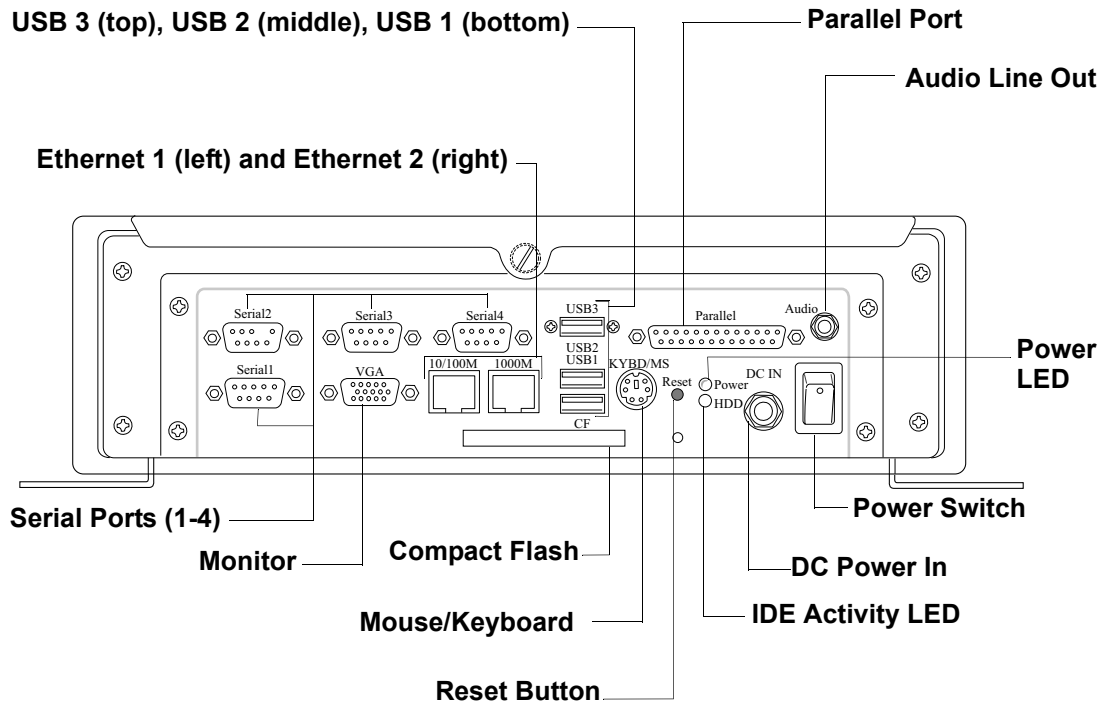

Figure 1-3. Flat View of ReadySystem Fanless I/O Panel
7) Connect the Y-cable and the respective peripheral cables/devices.	This includes the Y-cable for the PS/2 keyboard and mouse. Refer to Figure 1-3 on page 6 for locations and descriptions of the connectors and controls before making connections or powering on the ReadySystem Fanless.
Power Switch	This power switch controls DC power and connects to the ReadyBoard from the I/O panel shown in Figure 1-3 .
IDE Activity LED	This yellow activity indicator, shown in Figure 1-3 , resides on the ReadyBoard and flickers when IDE or compact flash card activity occurs in the ReadySystem Fanless.
8) Follow these steps to apply power to the ReadySystem Fanless 	• Connect the AC Power In cable to the power brick. See figure Figure 1-1 on page 3. • Plug in the DC cable from the power brick to the DC IN jack of the ReadySystem Fanless. See Figure 1-3 on page 6. NOTE Power supplied to the unit must be within the allowed +12VDC +/- 5% to +24VDC +/- 5%. Failure to provide proper power may damage the system and void the warranty. • Plug in the CRT monitor's power cord to an AC outlet, and turn on the monitor. • Plug in the AC Power In cable adapter to an AC outlet. • Press the ReadySystem Fanless power switch (≈ 1 second) before continuing.
1. Initiate a shut down sequence through the OS, or press the Power Switch for 4-6 seconds to turn off power. See Figure 1-3 on page 6.